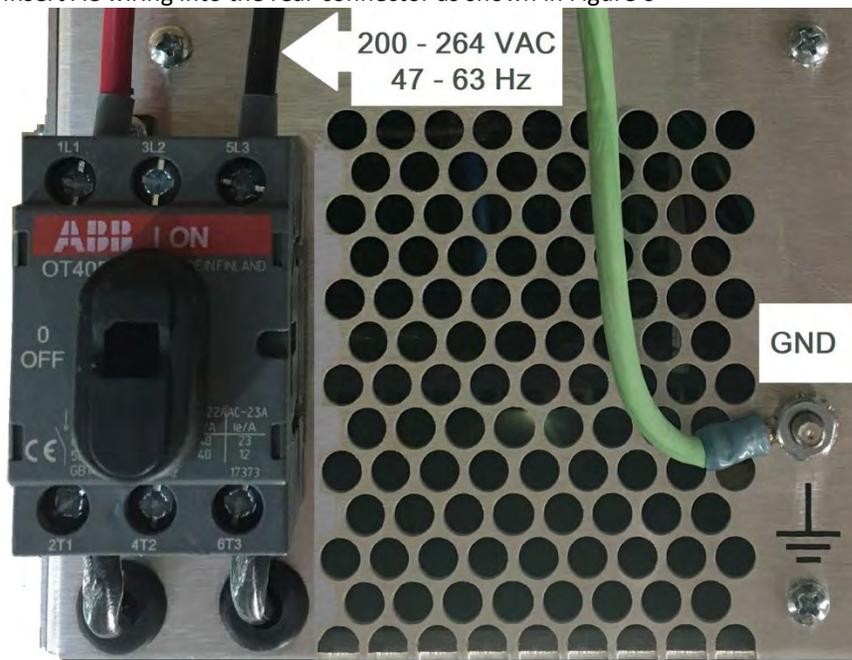

Figure 6 – AC Input
1. Insert AC wiring into the rear connector as shown in Figure 6